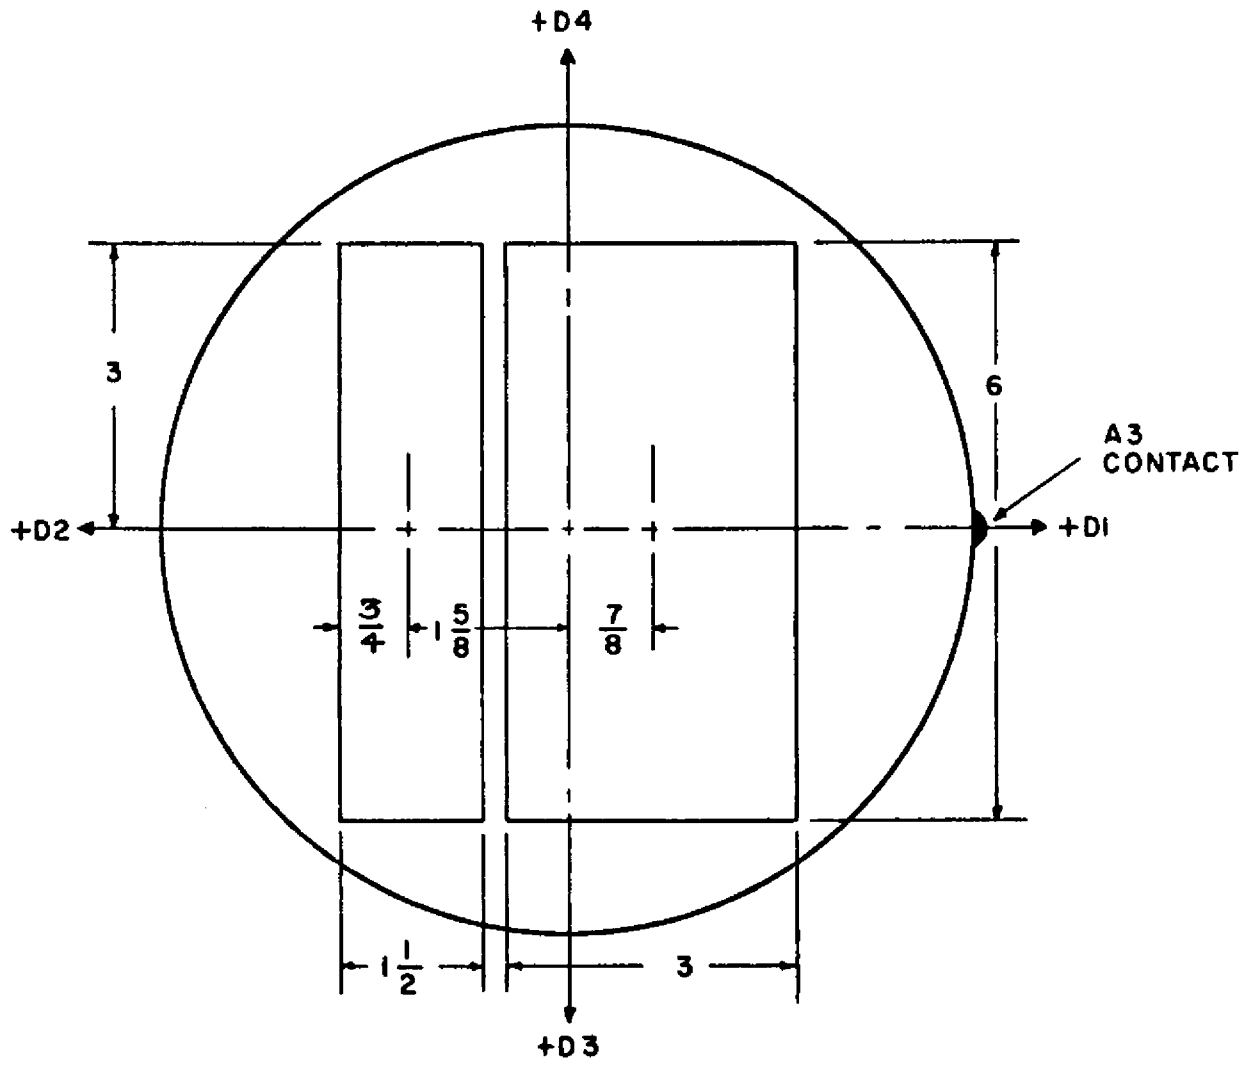

FIG. 2
- ◇ Minimum useful scan areas for each gun are shown in Figure 2.